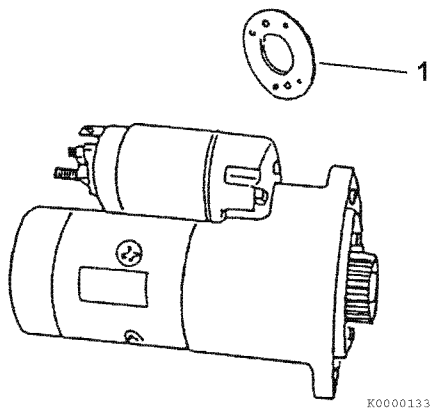

Figure 11-36
5. If the measured L dimension is outside the standard range, adjust the dust covers to obtain the standard range. Dust covers (1, **Figure 11-36**) are available in 0.020 in. (0.5 mm) and 0.031 in. (0.8 mm) thicknesses.